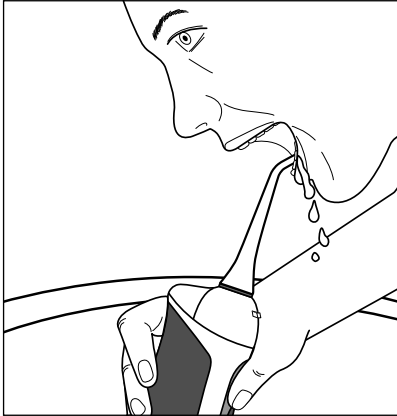

Fig. 1
- 4) Place the attachment **2** in your mouth to prevent spray. Bend over the washbasin and hold the handpiece **5** as upright as possible (see Fig. 1). Direct the nozzle **1** of the attachment **2** towards your teeth/ interdental spaces.